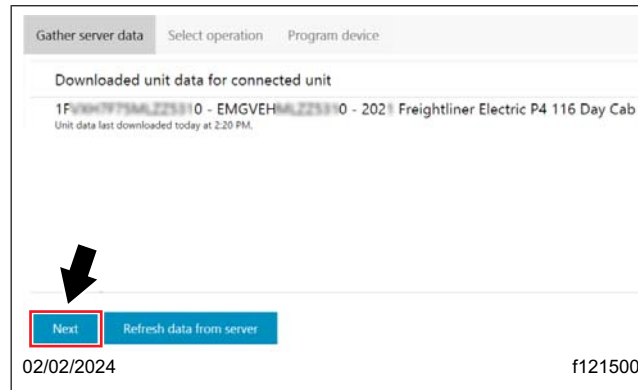

Fig. 24, Downloaded Data for Connected Unit
- Once the data download is complete, select 'Next.' See Fig. 24. The devices with available software are listed.